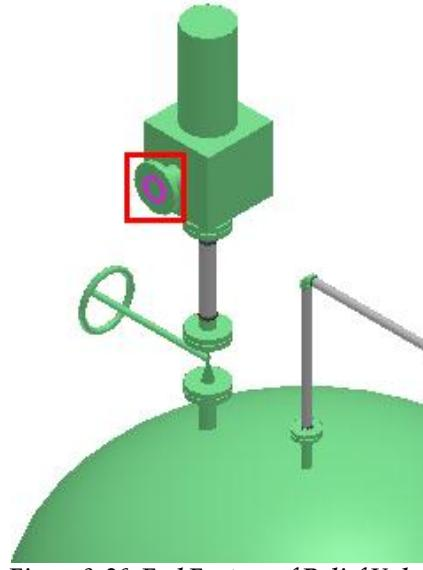

Figure 8. 26: End Feature of Relief Valve
11. Change the following specifications in the **Pipe End Feature Properties** dialog box, as shown in Figure 8. 27, and click **OK**.